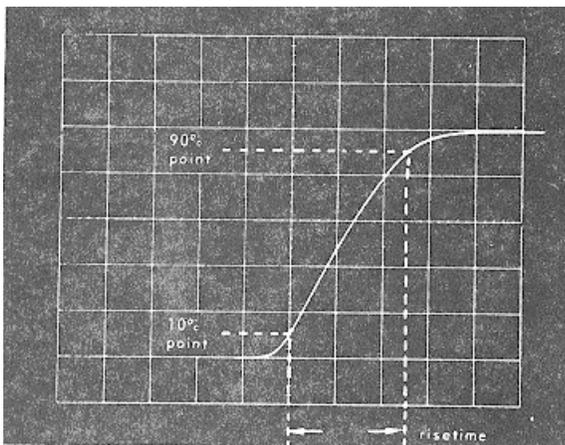

Fig. 5-1. Measuring rise time.
- w. Check—The rise-time (see Fig. 5-1). The rise-time should not exceed 6 μ s.
- f. Check-For blooming (see Fig. 5-1).